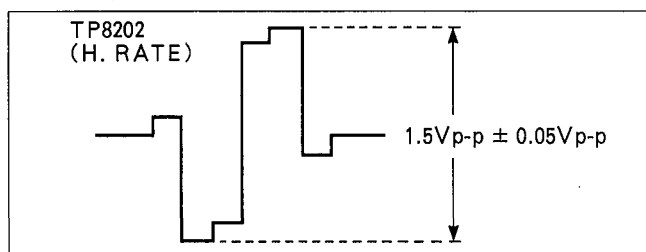

Figure E21-A
2. Adjust VR8204 so that the level becomes 1.5Vp-p  $\pm$  0.05Vp-p as shown in Figure E21-A.